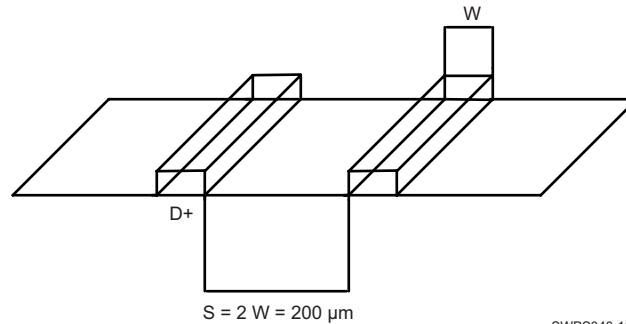

Figure 8-29. Ground Guard Illustration
- For a line width equal to W , the spacing between two lines must be $2W$, at least. This minimizes the crosstalk between switching signals between the different lines. On the PCB, this is not achievable everywhere (for example, when breaking signals out from the device package), but it is recommended to follow this rule as much as possible. When violating this guideline, minimize the length of the traces running parallel to each other (see Figure 8-29).